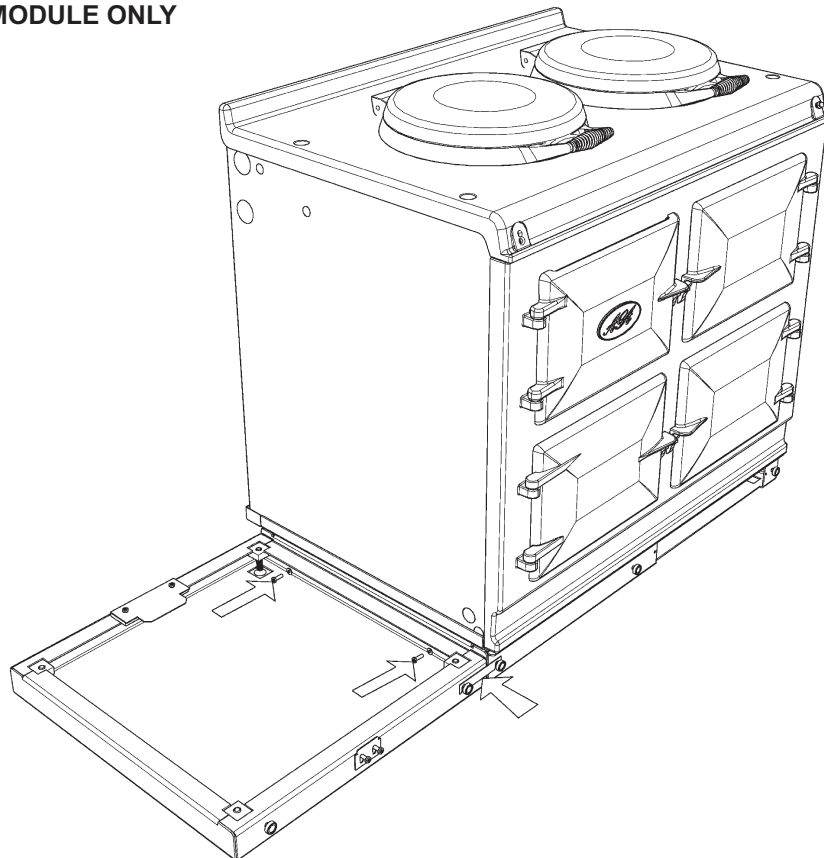

Fig. 7
6. Attach Module plinth to the AGA Total/Dual Control plinth using 2 M6 screws and washers provided (See Fig. 7 or 7A). Slide front jointing bracket into place over two pot magnets, locking the two appliances together.